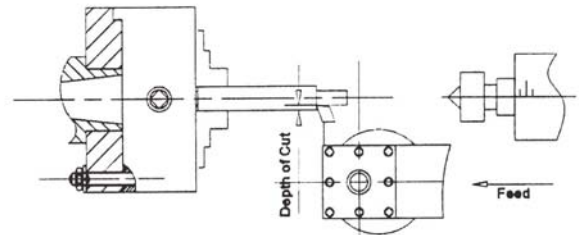

Fig.10
15.7 straight turning (Fig.10)